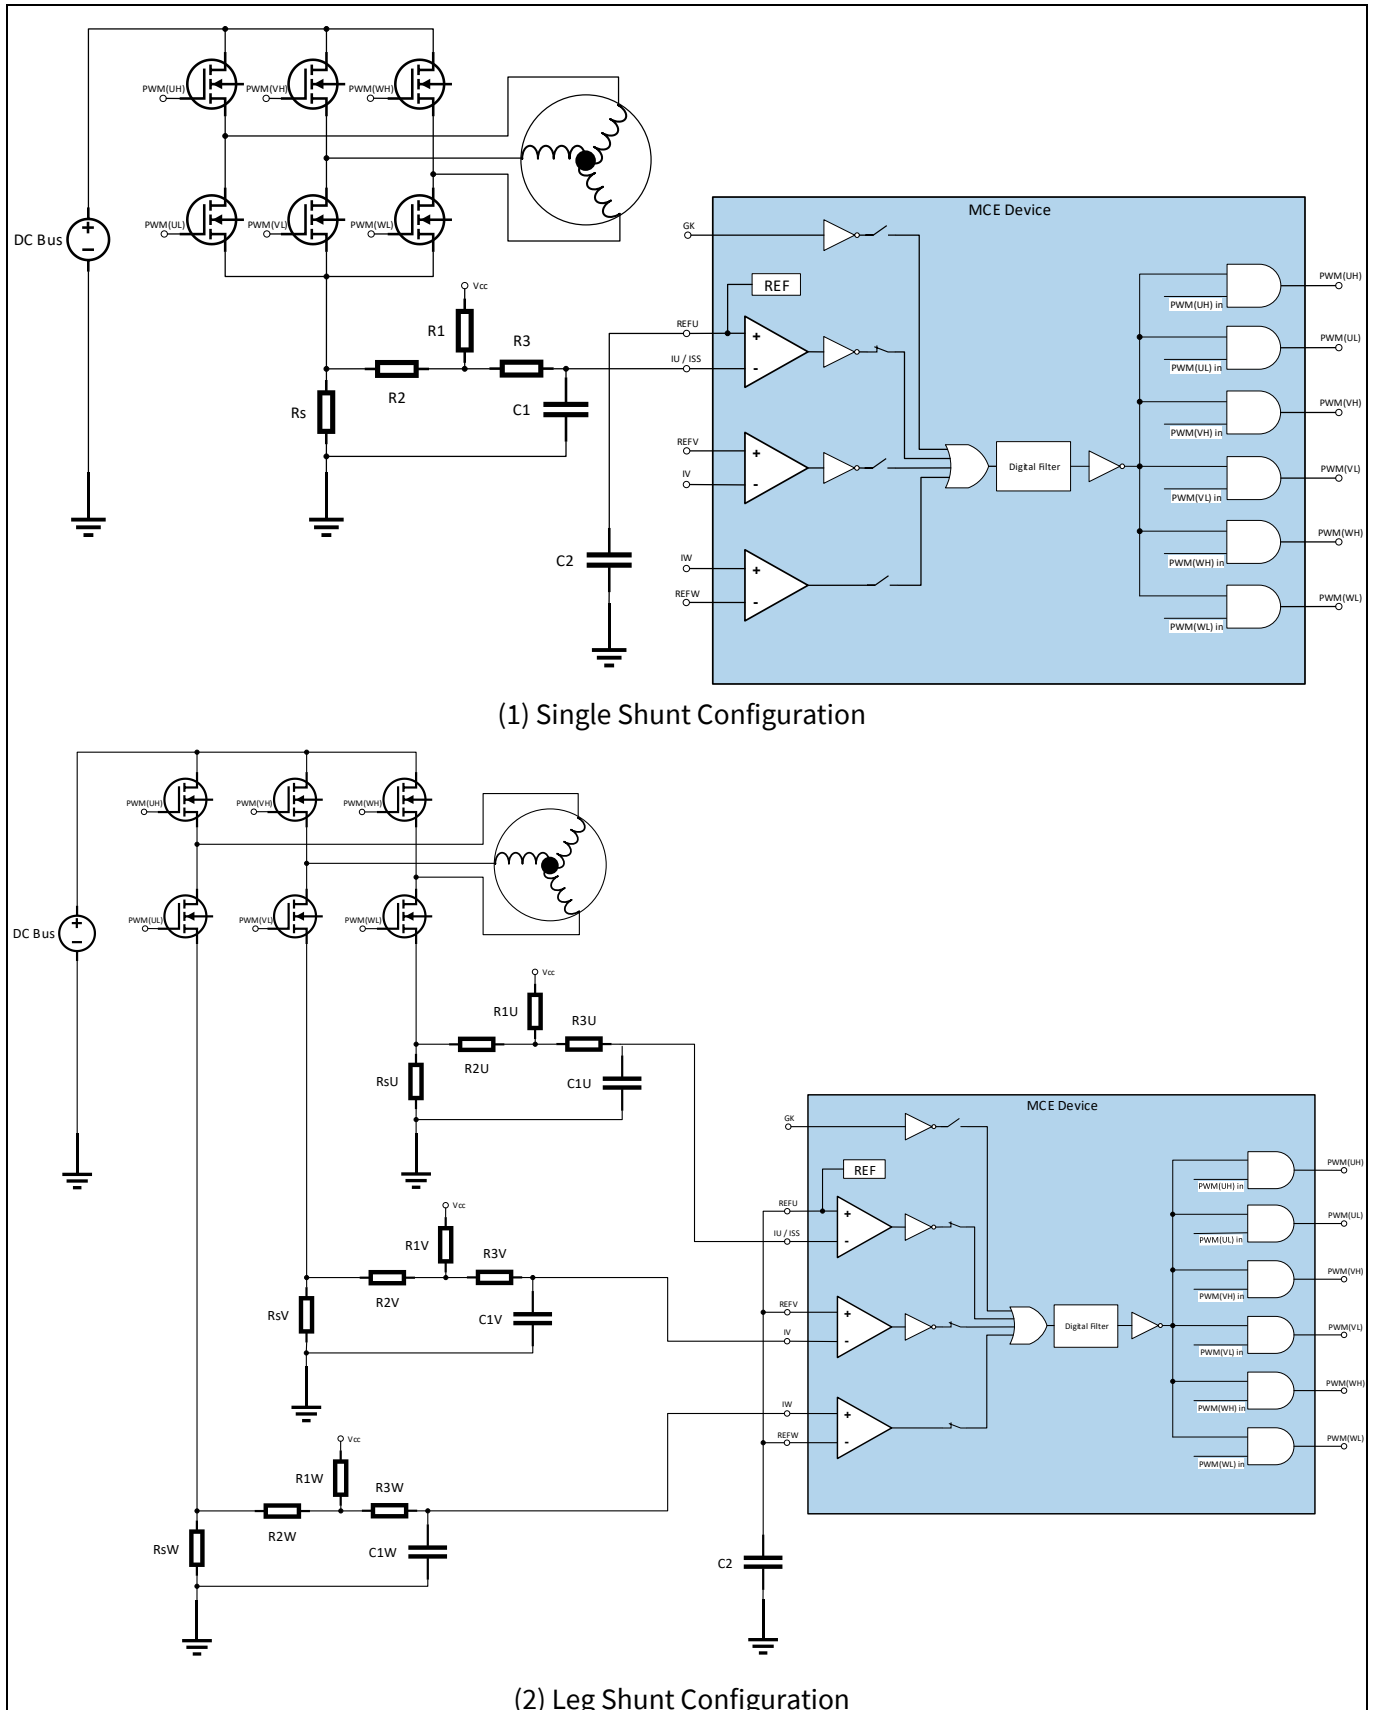

Figure 49 Typical Motor OCP Implementation Using Internal Comparators
User can select using either the dedicated GK pin or the internal comparators to realize the over-current protection function. In the case of using the GK pin, it is configured to be active LOW. In the case of using the internal comparators, the exact tripping voltage level can be specified by setting the ‘CompRef’ motor parameter. The current tripping level for the internal comparator can be configured using MCEWizard, the ‘CompRef’ parameter holds the current trip level value. As shown in Figure 49 (1), for single shunt current measurement configuration, only one internal comparator is used. For leg shunt current measurement configuration, three internal comparators are used to detect over current condition as shown in Figure 49 (2).